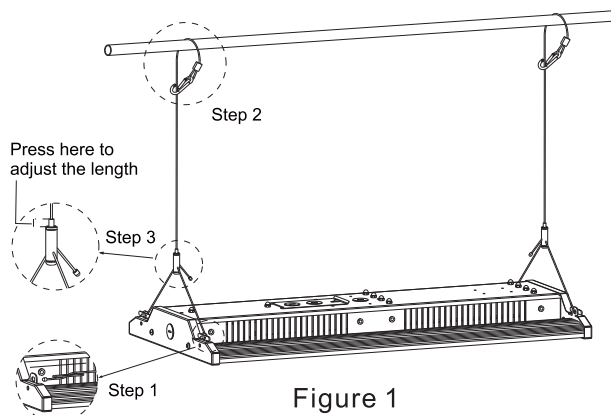

Figure 1
- Step 1.Fix the lifting rope on the rail (Figure 1)
- Step 2.Fix the light on the lifting rope (Figure 1)
- Step 3.Adjust the rope length accordingly (Figure 1)